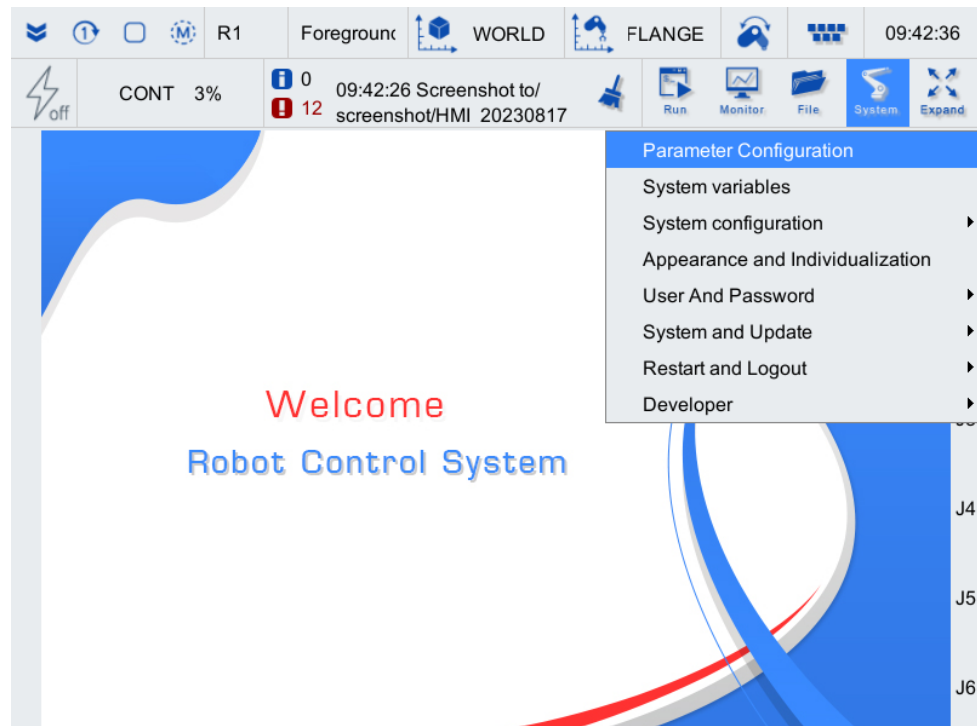

Figure 5-44 System related dropdown list
Step2. Click on [System/Parameter Configuration] in the upper right corner menu area, as shown in Figure 5-44.